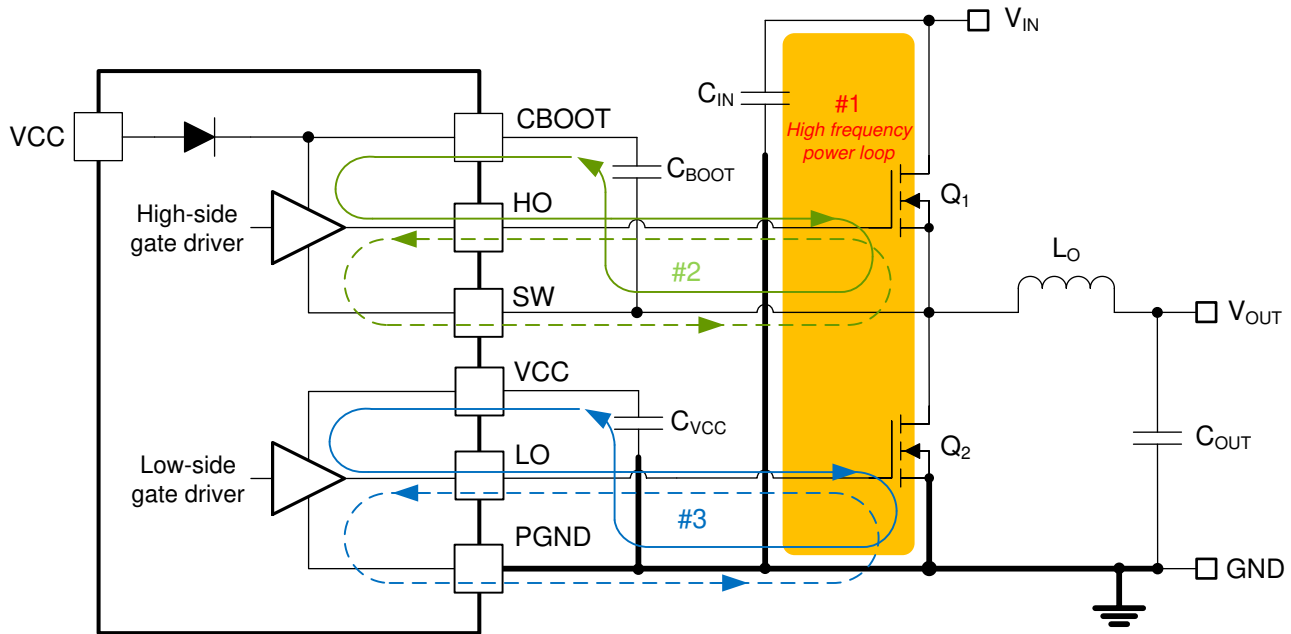

Figure 8-46. DC/DC Regulator Ground System With Power Stage and Gate Drive Circuit Switching Loops
Proper PCB design and layout is important in a high-current, fast-switching circuit (with high current and voltage slew rates) to achieve a robust and reliable design. As expected, certain issues must be considered before designing a PCB layout using the LM5148-Q1. The high-frequency power loop of a buck regulator power stage is denoted by loop 1 in the shaded area of Figure 8-46. The topological architecture of a buck regulator means that particularly high di/dt current flows in the components of loop 1, and reducing the parasitic inductance of this loop by minimizing the effective loop area becomes mandatory. Also important are the gate drive loops of the high-side and low-side MOSFETs, denoted by 2 and 3, respectively, in Figure 8-46.
- Loop 1: The most important loop area to minimize is the path from the input capacitor or capacitors through the high- and low-side MOSFETs, and back to the capacitor or capacitors through the ground connection. Connect the input capacitor or capacitors negative terminal close to the source of the low-side MOSFET (at ground). Similarly, connect the input capacitor or capacitors positive terminal close to the drain of the high-side MOSFET (at VIN). Refer to loop 1 of Figure 8-46.
- The SW pin connects to the switch node of the power conversion stage and acts as the return path for the high-side gate driver. The parasitic inductance inherent to loop 1 in Figure 8-46 and the output capacitance (C_{OSS}) of both power MOSFETs form a resonant circuit that induces high frequency (greater than 50 MHz) ringing at the SW node. The voltage peak of this ringing, if not controlled, can be significantly higher than the input voltage. Make sure that the peak ringing amplitude does not exceed the absolute maximum rating limit for the SW pin. In many cases, a series resistor and capacitor snubber network connected from the SW node to GND damps the ringing and decreases the peak amplitude. Provide provisions for snubber network
- Loop 2: high-side MOSFET, Q_1 . During the high-side MOSFET turn-on, high current flows from the bootstrap (boot) capacitor through the gate driver and high-side MOSFET, and back to the negative terminal of the boot capacitor through the SW connection. Conversely, to turn off the high-side MOSFET, high current flows from the gate of the high-side MOSFET through the gate driver and SW, and back to the source of the high-side MOSFET through the SW trace. Refer to loop 2 of Figure 8-46.
- Loop 3: low-side MOSFET, Q_2 . During the low-side MOSFET turn-on, high current flows from the VCC decoupling capacitor through the gate driver and low-side MOSFET, and back to the negative terminal of the capacitor through ground. Conversely, to turn off the low-side MOSFET, high current flows from the gate of the low-side MOSFET through the gate driver and GND, and back to the source of the low-side MOSFET through ground. Refer to loop 3 of Figure 8-46.